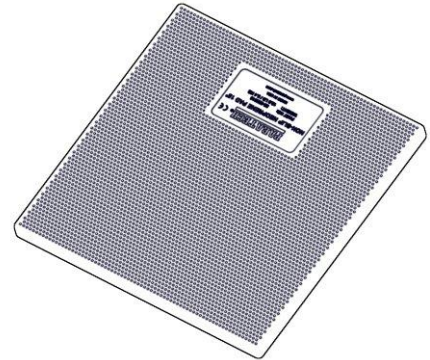

Figure 1-38 Non-Slip Neoprene Pad 15"
- j. **Non-Slip Neoprene Pad 15".** The Non-Slip Neoprene Pad 15" (Figure 1-38) is 15" (38.1 cm) square x 1" (2.5 cm) thick Non-Slip Neoprene Pad 15" is used on smooth concrete and metal surfaces as well as where water and/or lubricants are present. The pad also eliminates a potential sparking condition in an explosive atmosphere by eliminating metal-to-metal contact in certain strut placements.